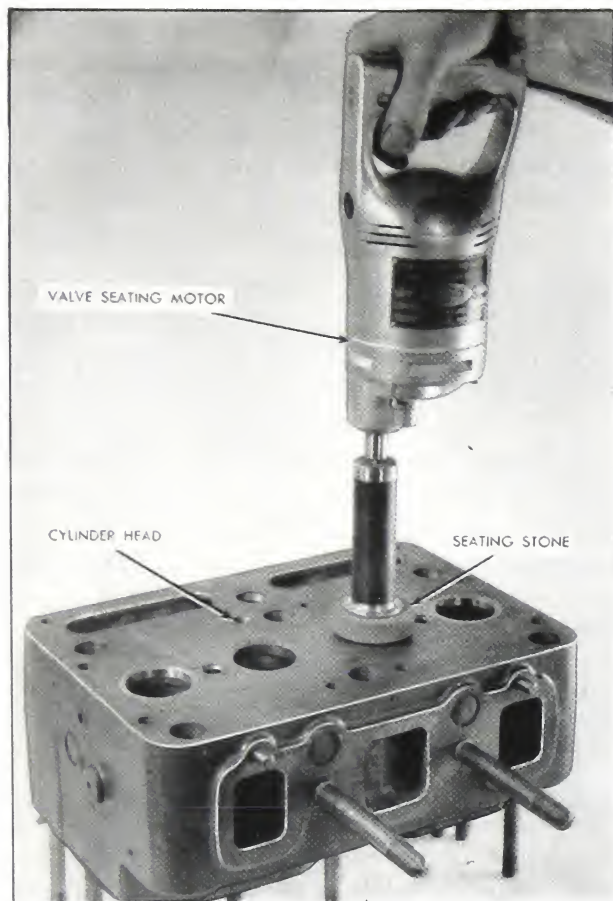

Fig. 3-16. Refacing valve seats
3. Dress the stone to 30 degrees from the horizontal. Hold seating motor as nearly vertical as possible. Even though the grinder has a universal joint, holding it at a severe angle will cause the seat to be out-of-true depending upon the amount of wear in the grinder bearings, mandrel, bushings, etc. See Fig. 3-16.